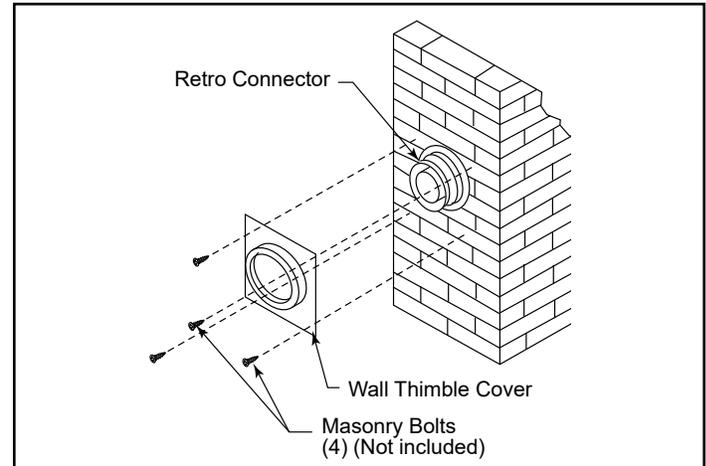

Figure 3.52
9. Slide the wall thimble cover (940) over the retro connector and secure the with masonry bolts as shown in Figure 3.52. If you have a framed wall in front of the masonry, use wood screws to mount the wall thimble cover to the framed wall, over the retro connector and the 10" (254 mm) square framed opening as shown in Figure 3.53. If needed, add a section of direct vent pipe to the retro connector in order to extend through the opening in the wall thimble cover.